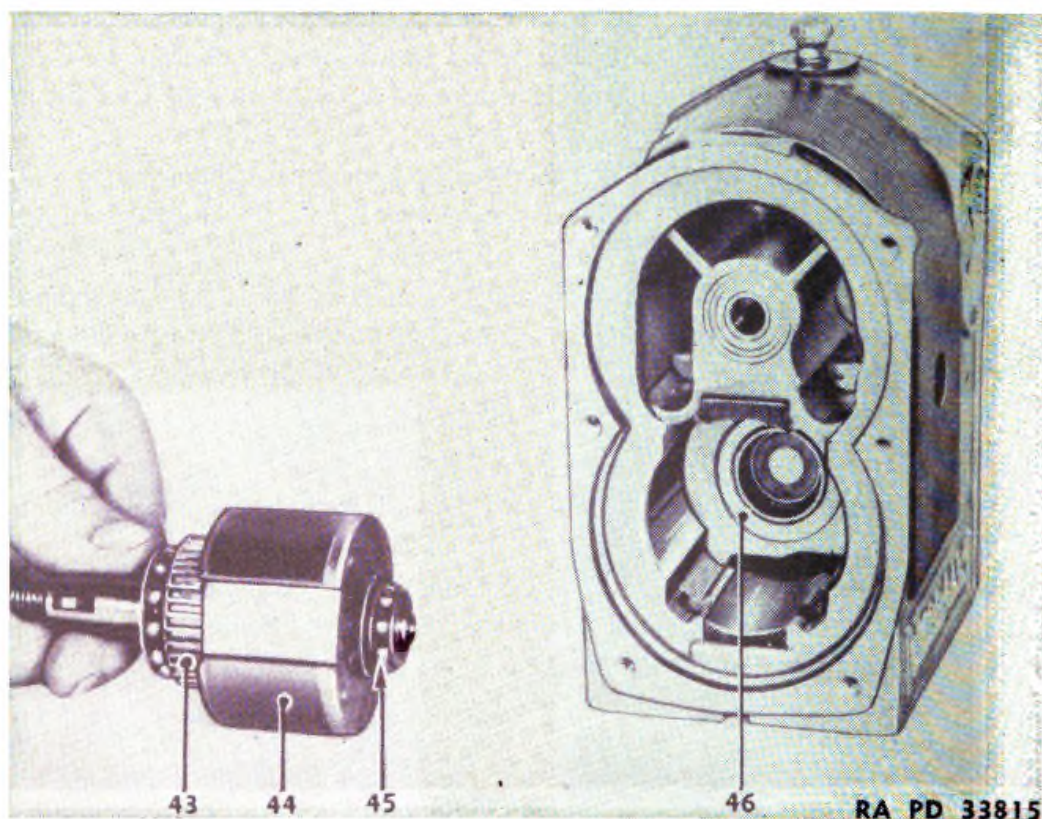

FIGURE 99.—Rotor gear and bearing removal.
d. Be sure to aline timing marks on rotor, gear (43) (fig. 99) and distributor gear when reassembling.
98. Induction rotor and gear.—a. With distributor gear removed, the induction rotor will slide out. The rotor gear and bearing (43) (fig. 99) may be driven off by using forked drift (19986). The race alone can be removed by pulling with the Universal puller with chuck (19973). Drift (19985) will install either the race or the gear.
c. The bearing race (45) (fig. 99) can be pulled using the Universal puller with chuck (19971). Drift (19984) (fig 95①) should be used to install this race.
d. Drift (19982) with support (19983) will remove the outer race (46) (fig. 99) from the housing. Arbor (19980), fixture (19981), and base plate (19988) should be used to install the race.